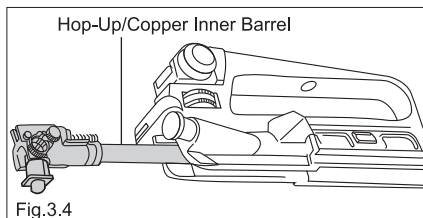

Fig.3.4
- 6 The Hop-Up and Copper Inner Barrel can be removed as shown in Fig. 3.4.